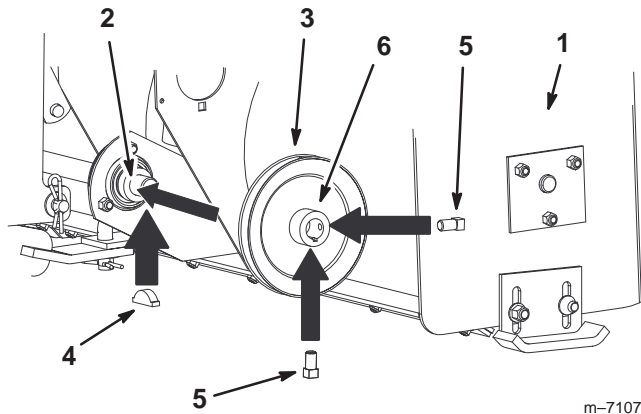

Figure 4
1. Install the key into the slot in the shaft (Fig. 4). The key may need to be lightly tapped in with a hammer.
2. Align the pulley with the key and slide the pulley onto the shaft (Fig. 4). The long hub needs to be facing towards the outside of the snowthrower.
3. Install the 2 square head bolts (5/16 x 1/2 inch) into the long hub (Fig. 4). Do not tighten the bolts, the pulley will need to be adjusted when installing the belt.